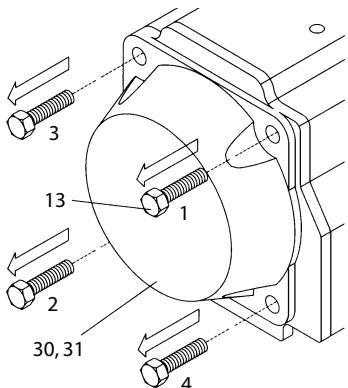
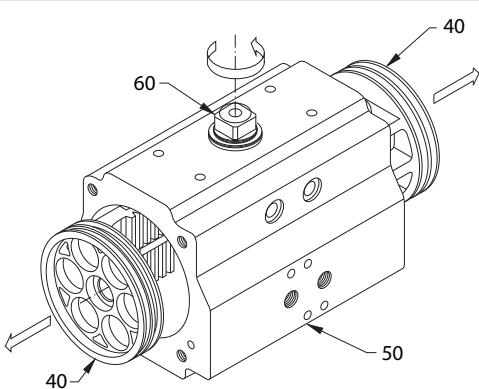

Figure 5
Figure 6
- A. Remove both stop cap screws (02) together with nut (04) and washer (03).
- B. Remove stop screw o-rings (11) and discard if replacing all soft parts.
3. End Cap (30, 31) Disassembly, (Figure 5):
- A. Remove the end cap bolts (13) in the sequence shown in (Figure 5). **CAUTION: When disassembling a spring return actuator, the end cap (30, 31) should be loose after unscrewing end cap bolts (13) 4-5 turns. If there is still force on the end cap (30, 31) after 4-5 turns of the end cap bolt (13), this may indicate a damaged spring cartridge and any further disassembly should be discontinued. Further disassembly of the end-caps may result in serious personal injury. Return actuator to Metso Automation for further maintenance.**
- B. For spring return actuators, remove spring cartridges (17).
- C. Remove end-cap o-rings (14) and discard if replacing all soft parts.
4. Piston (40) Disassembly, (Figure 6):